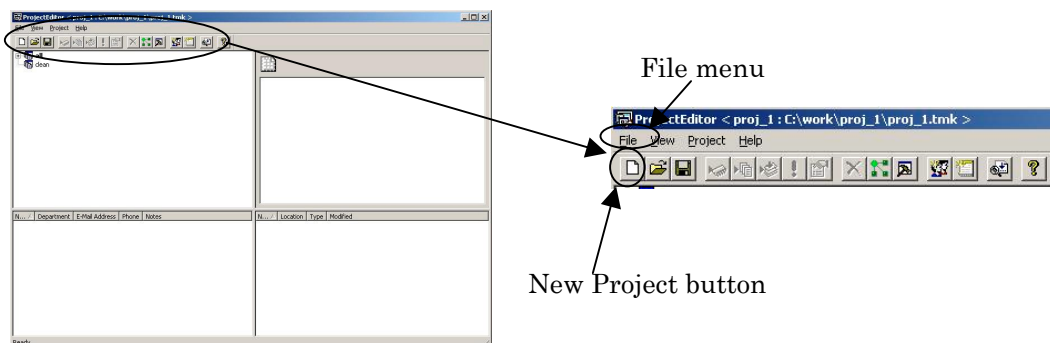

Figure 19 Project Editor
2. Use the New Project button of the Project Editor (Figure 19)